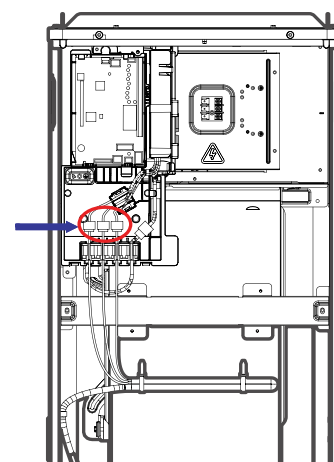

Fig. 1-5: Disconnect the Connector
4. Disconnect the connector. See Fig. 1-5.